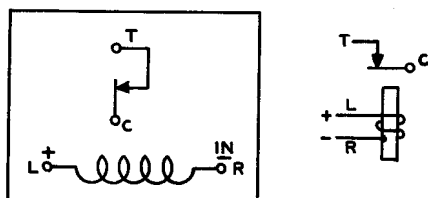

**Fig. 56 — Winding and Spring Terminal Arrangement as Viewed From the Rear (terminal side) — 282-Type Relay**
**2.69** As viewed from the front, all springs on the relay, and the terminals of the heater winding of the thermal unit are located to the left of the armature. The terminals of the inductive windings (Y-type relay coil) are located to the right. All springs and all winding terminals except those of the heater winding are designated the same as on Y-type relays described in 2.17 through 2.24. The terminals of the heater unit winding, located to the left of the contact springs, are designated LT and LB, respectively, in the top and bottom row. As viewed from the rear, the contact spring and winding terminals are designated as shown in Fig. 56. The circuit